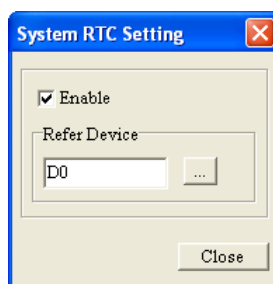

Figure 5-22 System RTC Setting window
**System RTC Setting** is used to write the time, the week, and the date in a TP series text panel to a related device. After users click **System RTC Setting** on the **Global Setting** menu, the **System RTC Setting** window will appear, as shown in Figure 5-22. After the users click ... in the **Refer Device** section, the **Refer Device** window will be opened. Please refer to section 4.1.1 for more information.